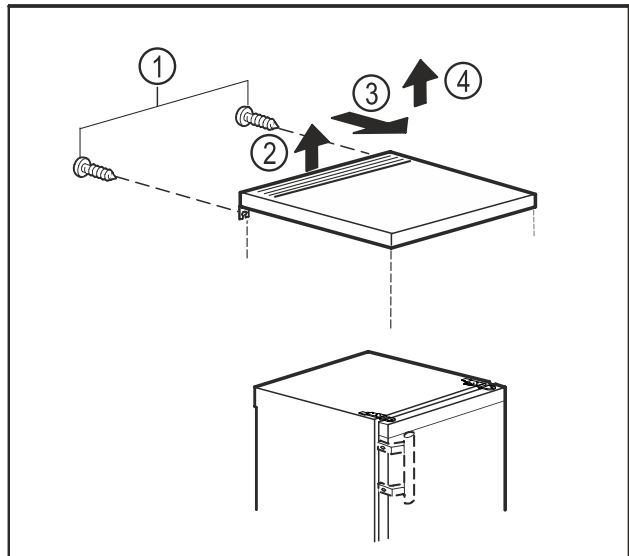

Fig. 9
- ▶ Remove the screws on the rear side. Fig. 9 (1)
- ▶ Raise the table top at the back. Fig. 9 (2)
- ▶ Push the table top forwards. Fig. 9 (3)
- ▶ Remove the table top upwards. Fig. 9 (4)